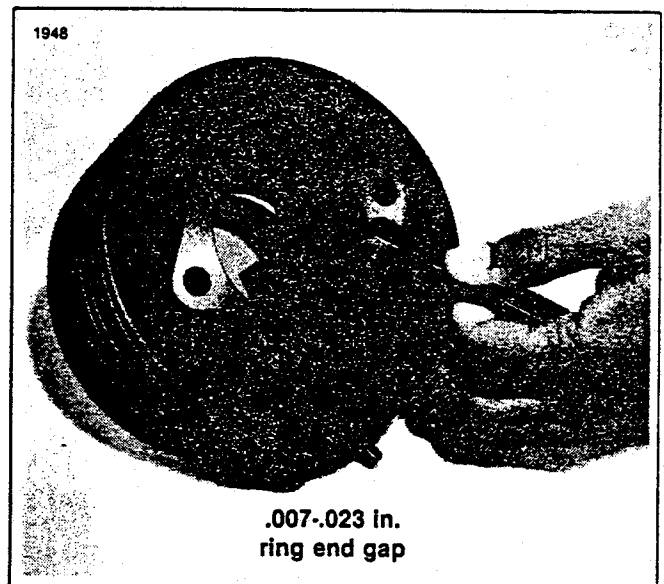

Figure 5-13. Ring End Gap
2. See Figure 5-13. Check the ring gap clearance as shown. Place a ring in the cylinder, 1/2 in. from the top. Ring gap should be .007-.023 in. If ring gap is less, ring ends could butt against each other when the ring expands. This will cause the rings to break, damaging the cylinder and piston. Ring gaps may be increased by carefully filing excess material from ring ends.